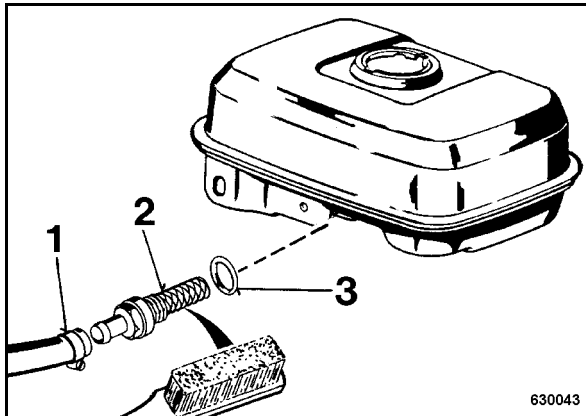

Fig. 66
- Open the hose clamp (1) (Fig. 66) and pull off the hose.
- Unscrew fuel screen (2).
- Check the seal (3), replace if necessary.